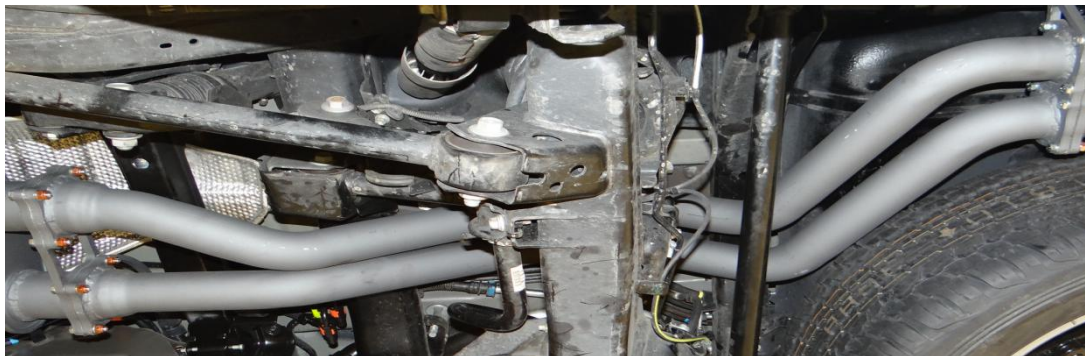

Figure 2.
12. Fit the twin tail pipe to the twin muffler assembly using eight M8x1.25x35mm bolts, 16 M8 flat washers and tighten M8x1.25 lock nuts finger tight. As shown in Figure 2.